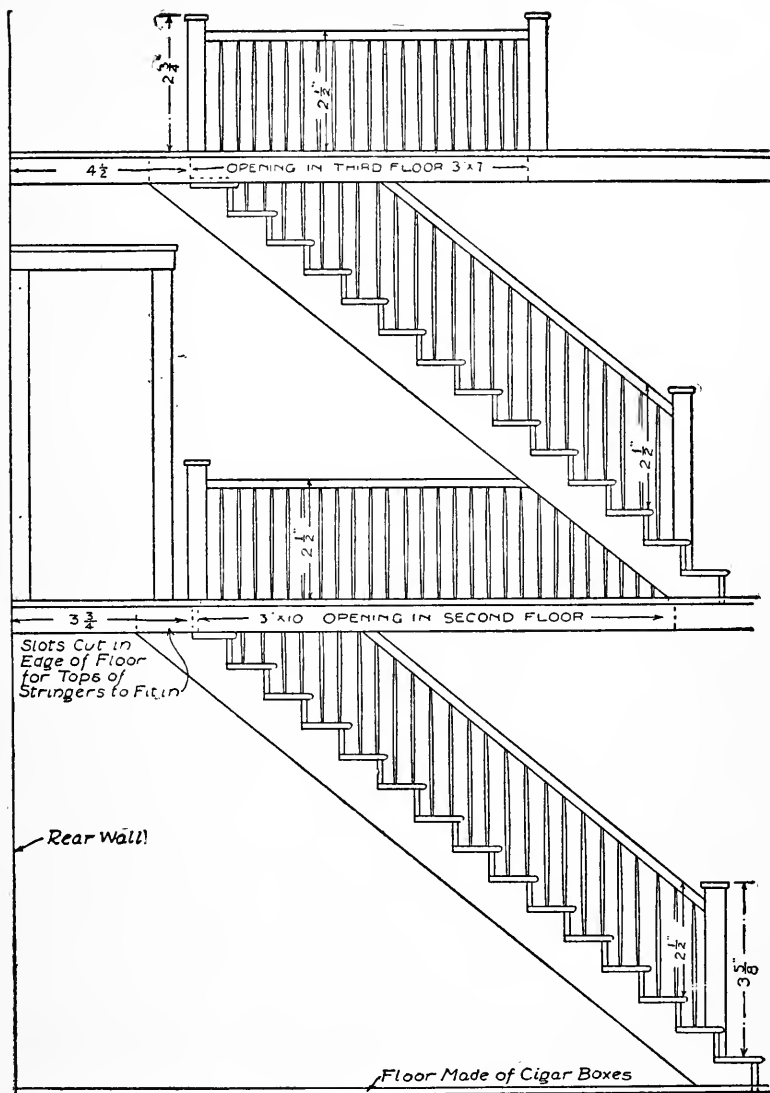

FIG. 71. — Details of Inside Stairs.
**The Stairs** from first to second floors (Fig. 71) should now be constructed as described later under the head of "Stairways," as it would be difficult to set them in place after the walls are up.
**Stairways.**— While each stairway should be built before the floor above is laid, in order that the work can more easily be done, they have been left for description here, that they might be spoken of in a general way. In Figs. 71, 72, 73, 74, and 75 will be found complete details for these.
a slot in the edge of the floors for the tops to set in, as shown in Fig. 71. Then glue on the treads and risers, and cut the bottom of the newel-post to fit over the second step. The lower end of the toothpick balusters are set into slits cut with a knife in the treads, and the upper ends fit in the groove cut in the hand-rail.
The Balustrades around the stair openings on the second and third floors are made in the same way (see Fig. 71). As finished floors are to be laid in the halls, as described later, it will be well at this point to fasten a strip from a cigar-box around the stair openings, upon which to fasten the newels and in which to stick the ends of the balusters.